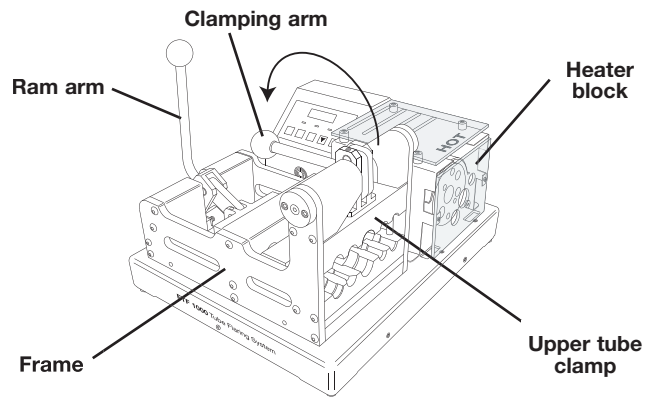

Fig. 4
1. Retract **upper tube clamp** to the fully open position by moving the **clamping arm** in the direction shown. See Fig. 4.
2. Use the **ram arm** to match up the lines on the ram to the "START" position marked on the frame. The **ram arm** will reach a positive detent. See Figs. 4 and 5.